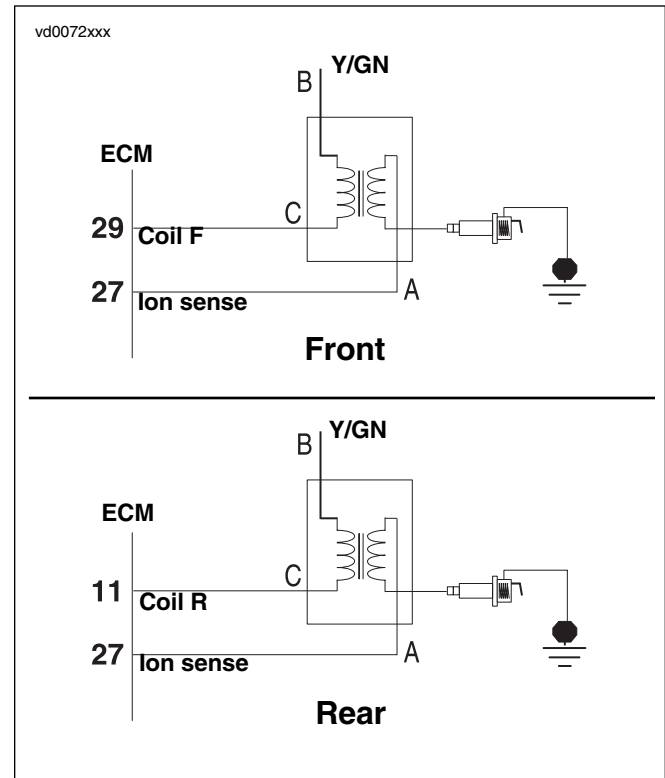

Figure 1-21. Plug Top Coil Testing
2. See Figure 1-21. Set ohmmeter scale to RX1.
2. See Figure 1-21. Set ohmmeter scale to RX1K.